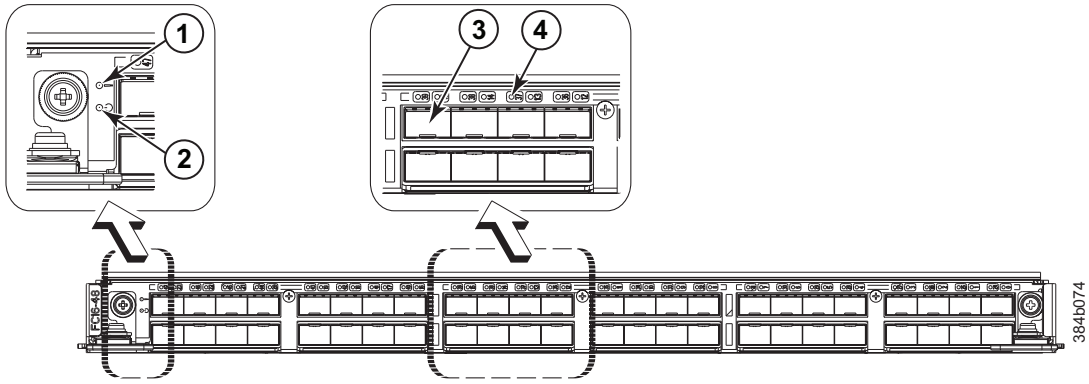

Figure 20. FC16-48 port blade
- Figure 20 on page 58 illustrates the FC16-48 port blade